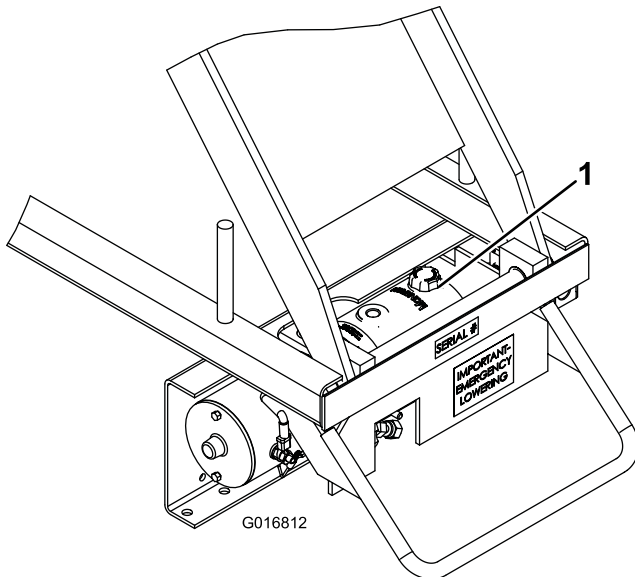

Figure 17
4. Clean area around reservoir breather cap (Figure 17).